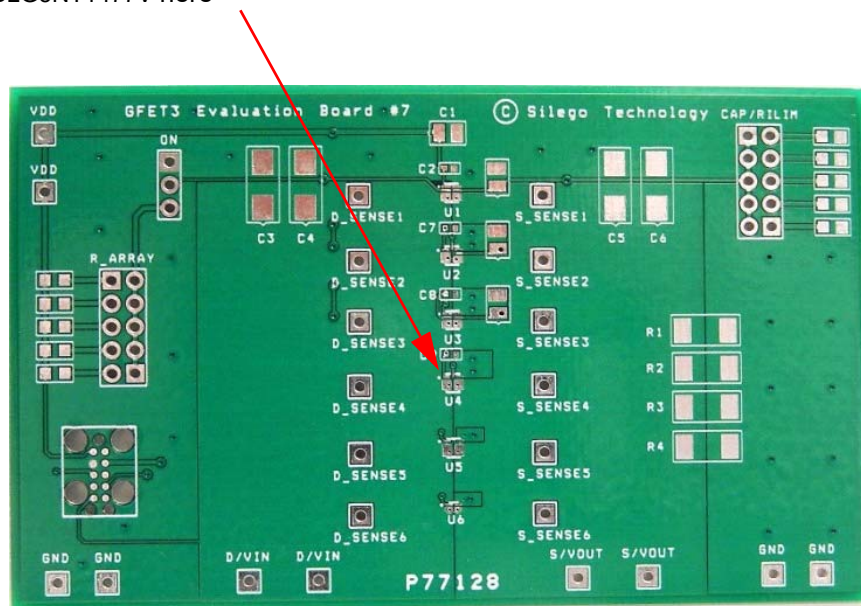

Figure 1. SLG5NT1477V Evaluation Board
2. Since the D and S pins dissipate most of the heat generated during high-load current operation, it is highly recommended to make power traces as short, direct, and wide as possible. A good practice is to make power traces with absolute minimum widths of 15 mils (0.381 mm) per Ampere. A representative layout, shown in Figure 1, illustrates proper techniques for heat to transfer as efficiently as possible out of the device;
A GFET3 Evaluation Board for SLG5NT1477V is designed according to the statements above and is illustrated on Figure 1. Please note that evaluation board has D\_Sense and S\_Sense pads. They cannot carry high currents and dedicated only for RDSON evaluation.